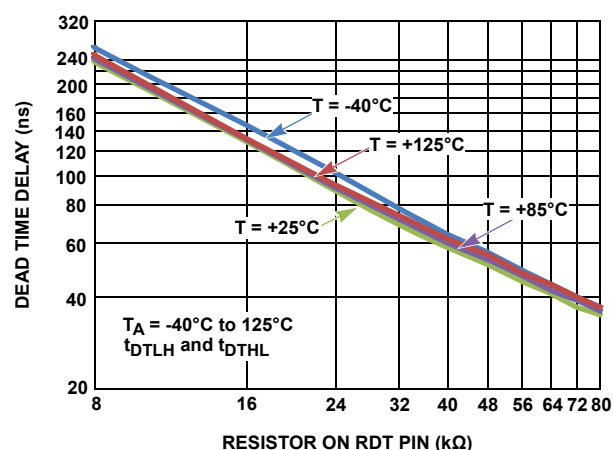

FIGURE 10. DEAD-TIME DELAY VS RDT RESISTOR
When the PWM input transitions high or low, it is necessary to ensure that both bridge FETs are not on at the same time to prevent shoot-through currents. The ISL78420 programmable timers delay the rising edge of the high-side (HO) and low-side (LO) gate drives so that both FETs are off before one of them is turned on. The dead-time delay on the rising edge of LO and HO is programmable with a single resistor from the RDT pin to  $V_{SS}$ . The dead time is adjustable from 35ns ( $R_{RDT} = 80k\Omega$ ) to 220ns ( $R_{RDT} = 8k\Omega$ ). It is not recommended to use resistors beyond these values. The dead time is set equal on both falling edges of LO and HO. See "Timing Diagram" on page 6 for the definition of dead-time delay. See Figure 10 on page 7 for the programmed dead time vs resistor value.